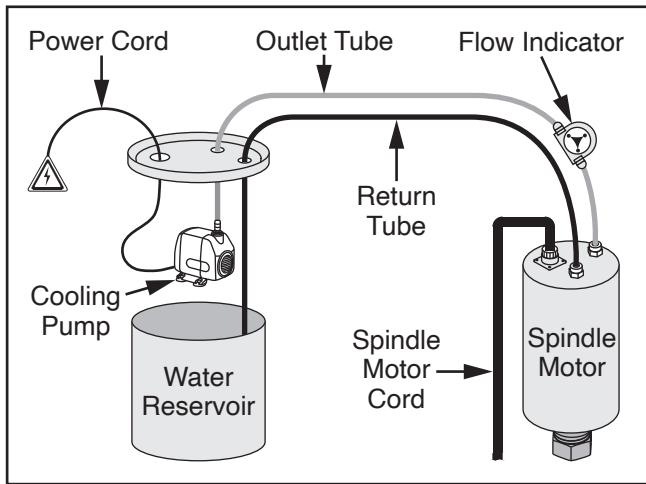

Figure 6. Location of cooling system connections.
- Insert removed end of return tube, cooling pump power cord, and cooling pump outlet tube through holes in water reservoir lid (see **Figure 6**).
- Insert blue outlet tube from cooling pump into open push-to-connect fitting on flow indicator (see **Figure 6**).